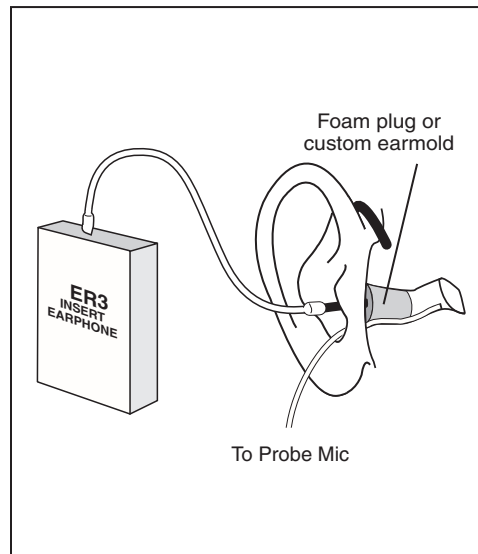

Figure 6.3.5D—Insert foam eartip connected to insert microphone.
3. Insert the foam eartip connected to the insert earphone into the client's ear, or attach the earphone directly to the client's earmold, and insert the earmold into the client's ear. See Figure 6.3.5D.